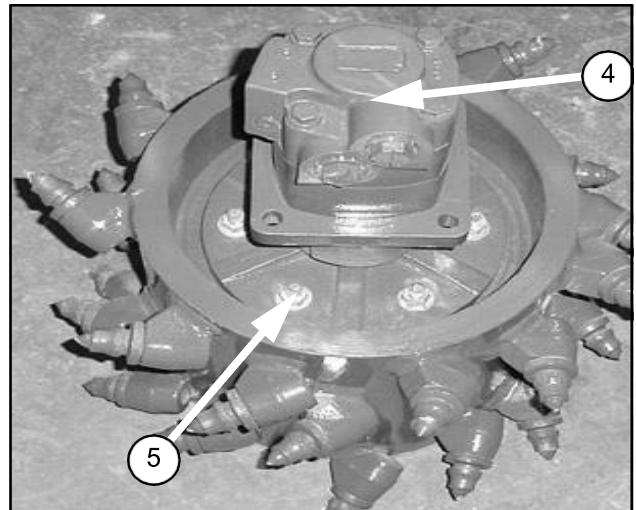

Figure 24.
2. On the opposite side of the drum as shown in Figure 24 install the motor/hub assembly (4) to the drum and torque the six 1/2" – 20 nuts (5) to 90 lbs- ft. (122 N-m).